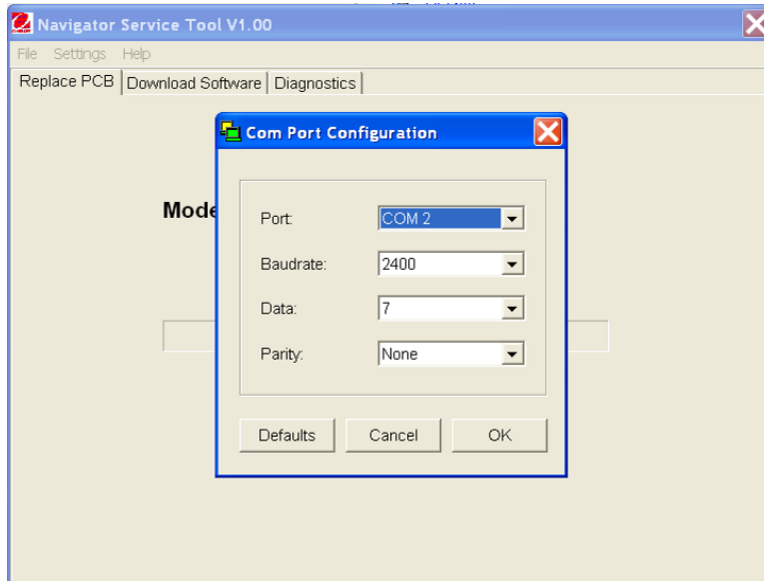

Figure C-2. Com Port Configuration screen
8. Click **Settings** on the tool bar then select **Com Port** from the dropdown menu. Set the "Port" to match where the RS232 is connected to the PC. Set baudrate, data and parity to match the settings of the scale. If these settings are unknown check the RS232 Menu in the scale. Note: In the scale user menu, data and parity are combined in the Parity menu selection (e.g. 7-none). The scale settings shown in Fig.C-2 are the default values for Navigator.